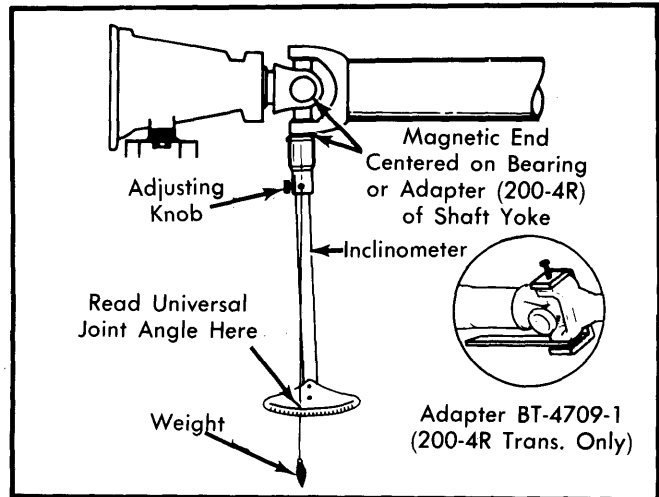

Fig. 2 Checking Transmission Angle Using Inclinometer (BT - 6902)
**Transmission Angle** - 1) Raise and support vehicle and set trim height. Place transmission in neutral. Clean all universal joint bearing caps. Turn propeller shaft until slip yoke bearings are vertical. Center magnetic end of inclinometer on bearing surface with weight and cord centered in slot at gauge end of tool. See Fig. 2.